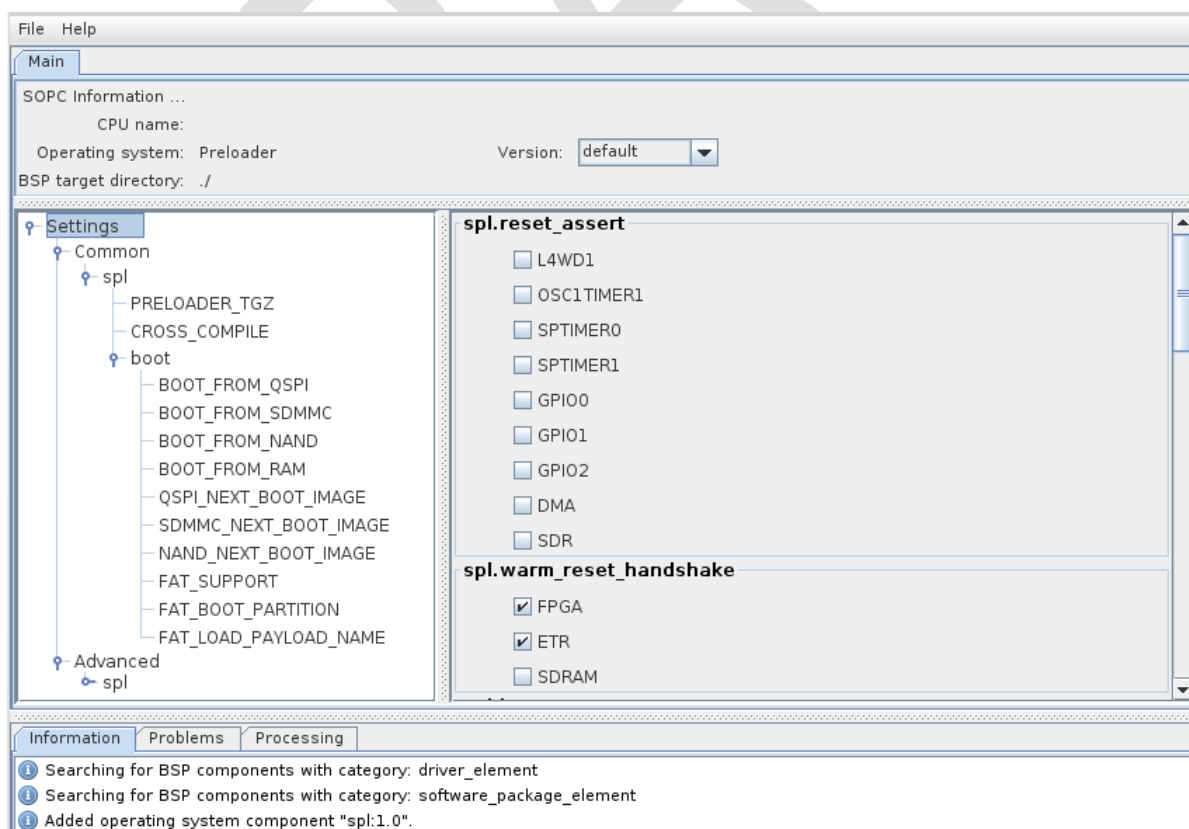

Figure 8-24. Preloader Settings Dialog
- c. Press the “OK” button. You should then arrive on a page with many settings, as shown on Figure 8-24. Take some time to read through them to see what the preloader has the ability to do.
12. On the main settings page of Figure 8-24, we will only need to modify 2 parameters for our design.